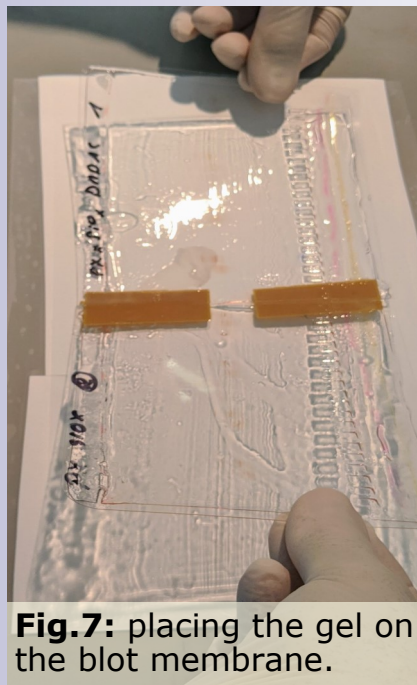

Fig.7: placing the gel on the blot membrane.
3. Take the gel from the cooling plate and place it - face down - on the blotting membrane. Figure 7.